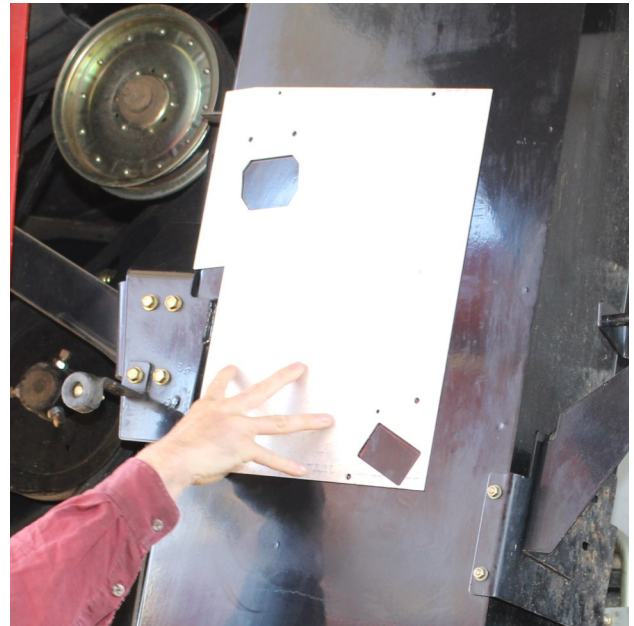

Figure 2.1. Sample Head installation template.
- 1) Position and hold the supplied sample head alloy template so that the template aligns and sits on the aft edge and on top of the door bracket structure as shown in figure 2.1. Refer to the dimensions provided in Appendix 3.3 for a full size drawing.